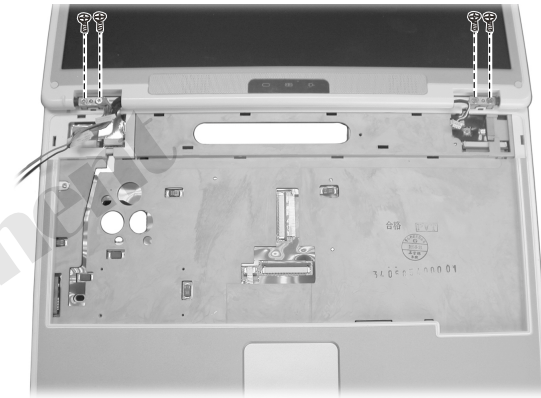

Figure 2-20 Free the LCD assembly
5. Remove the four screws, then free the LCD assembly. (Figure 2-20)